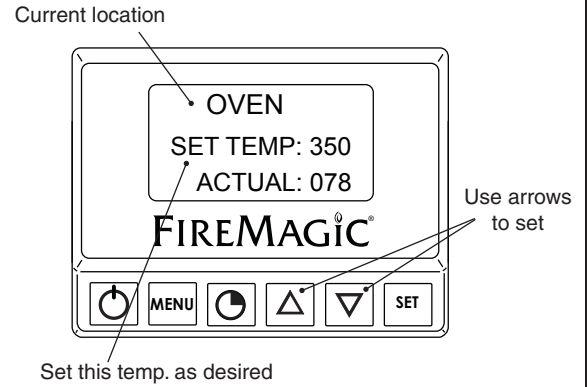

Fig. 14-1 Area temp. screen (oven shown)
2. The selected location's temperature screen will be displayed. Use the arrows to set the desired temp. The actual temp. will also be shown (see Fig. 14-1).